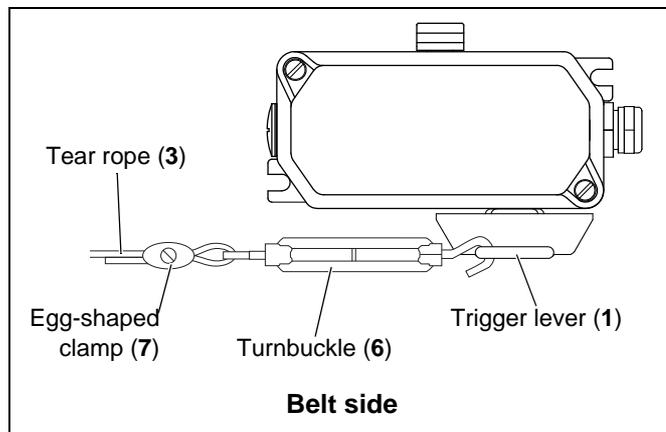

Fig. 5-8: Attaching the turnbuckle
9. Release the tension of one Turnbuckle (6) completely (see fig. 5-8).
10. Put one end of the Tear rope (3) through the eye of the Turnbuckle (6) and hook the Turnbuckle (6) into the Trigger lever (1).